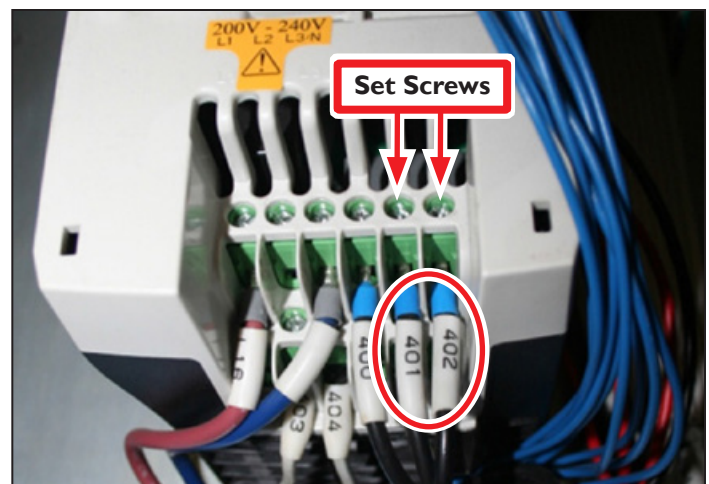

Figure 8.11
3. Identify motor wires #401 and #402, located at the bottom of the VFD (see **Figure 8.11**). Loosen the set screws above wires #401 and #402 and swap the wire connections (see **Figure 8.11**). When complete, retighten the set screws.